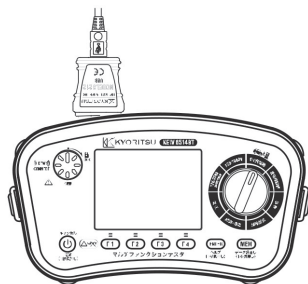

Fig. 16-2
- (1) Download “KEW Report2” and the driver for MODEL 8212USB from our website and install them in your PC before starting data transfer.
- (2) Disconnect the test leads from the instrument.
- (3) Insert the plug of MODEL 8212USB into the USB terminal into the USB terminal of your PC.
- (4) Connect MODEL 8212USB to the instrument as shown in Fig. 16-2.
- (5) Turn on the instrument. (Any function is ok.)
- (6) Run “KEW Report2” and click “Download” .